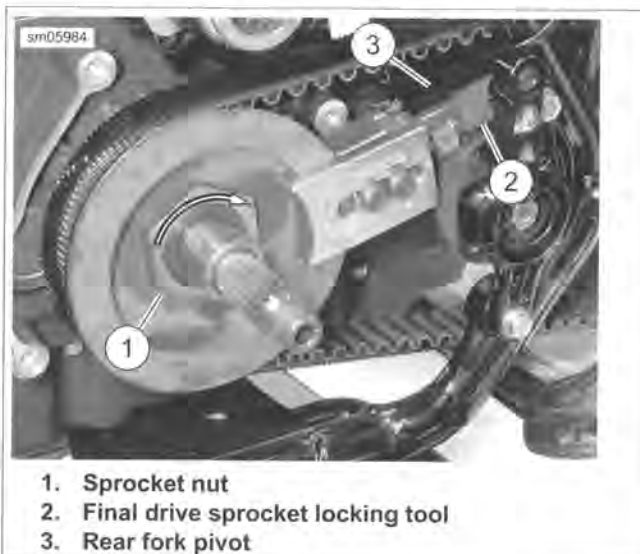

Figure 5-42. Sprocket Nut Installation
4. See Figure 5-42. Lock transmission sprocket with the FINAL DRIVE SPROCKET LOCKING TOOL (Part No. HD-46282A) (2). The locking tool must rest against the rear fork pivot (3).